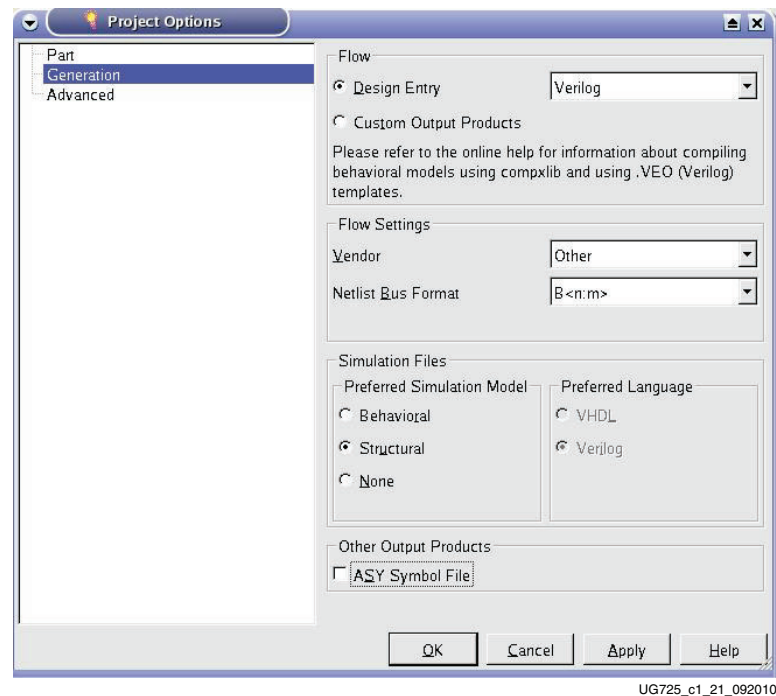

Figure 1-22: Generation Options
7. In the Project Options window, click **Generation** and select **Verilog** for **Design Entry**, select **Structural** for **Preferred Simulation Model**, and uncheck the box for **ASY Symbol File**. Leave the other settings unchanged. Figure 1-22 shows the correct settings.